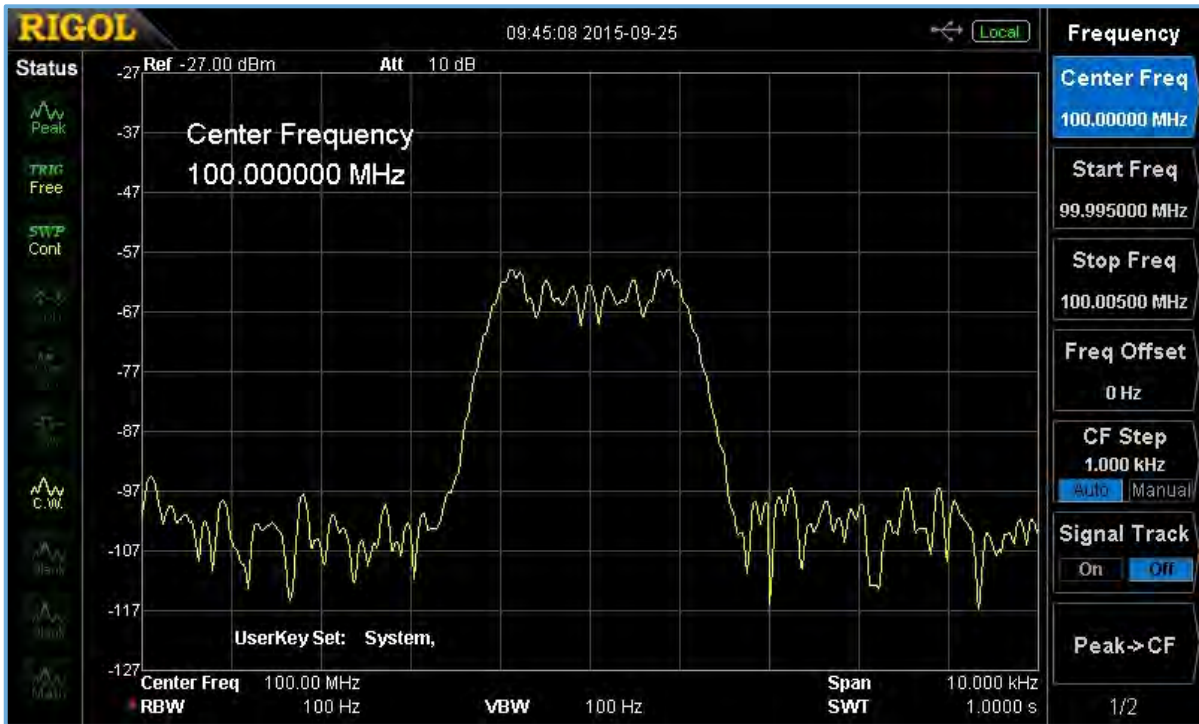

Figure 5-9: 100MHz carrier, 1kHz modulation FM signal on a spectrum analyzer
3. Set the center frequency of the analyzer to the carrier frequency of the input signal. In the example in **Figure 5-9**, a 100MHz FM transmission is being monitored.
- Set the resolution bandwidth (RBW) to a value less than the modulation frequency. In the **Figure 5-9**, the RBW is set to 100Hz. If an RBW close to the modulation frequency is used, there might not be sufficient resolution to see the modulation.
The input signal in **Figure 5-9** was modulated with a fixed 1kHz input. A real-world FM signal would be modulated by audio or voice information that could have a non-linear change in frequency. This would cause the frequency to vary with time. If the Max Hold trace type is available, it can be enabled, just as suggested with the AM signal. The FM Frequency Deviation of the signal can be measured in this way by collecting sweep data over a period of time.